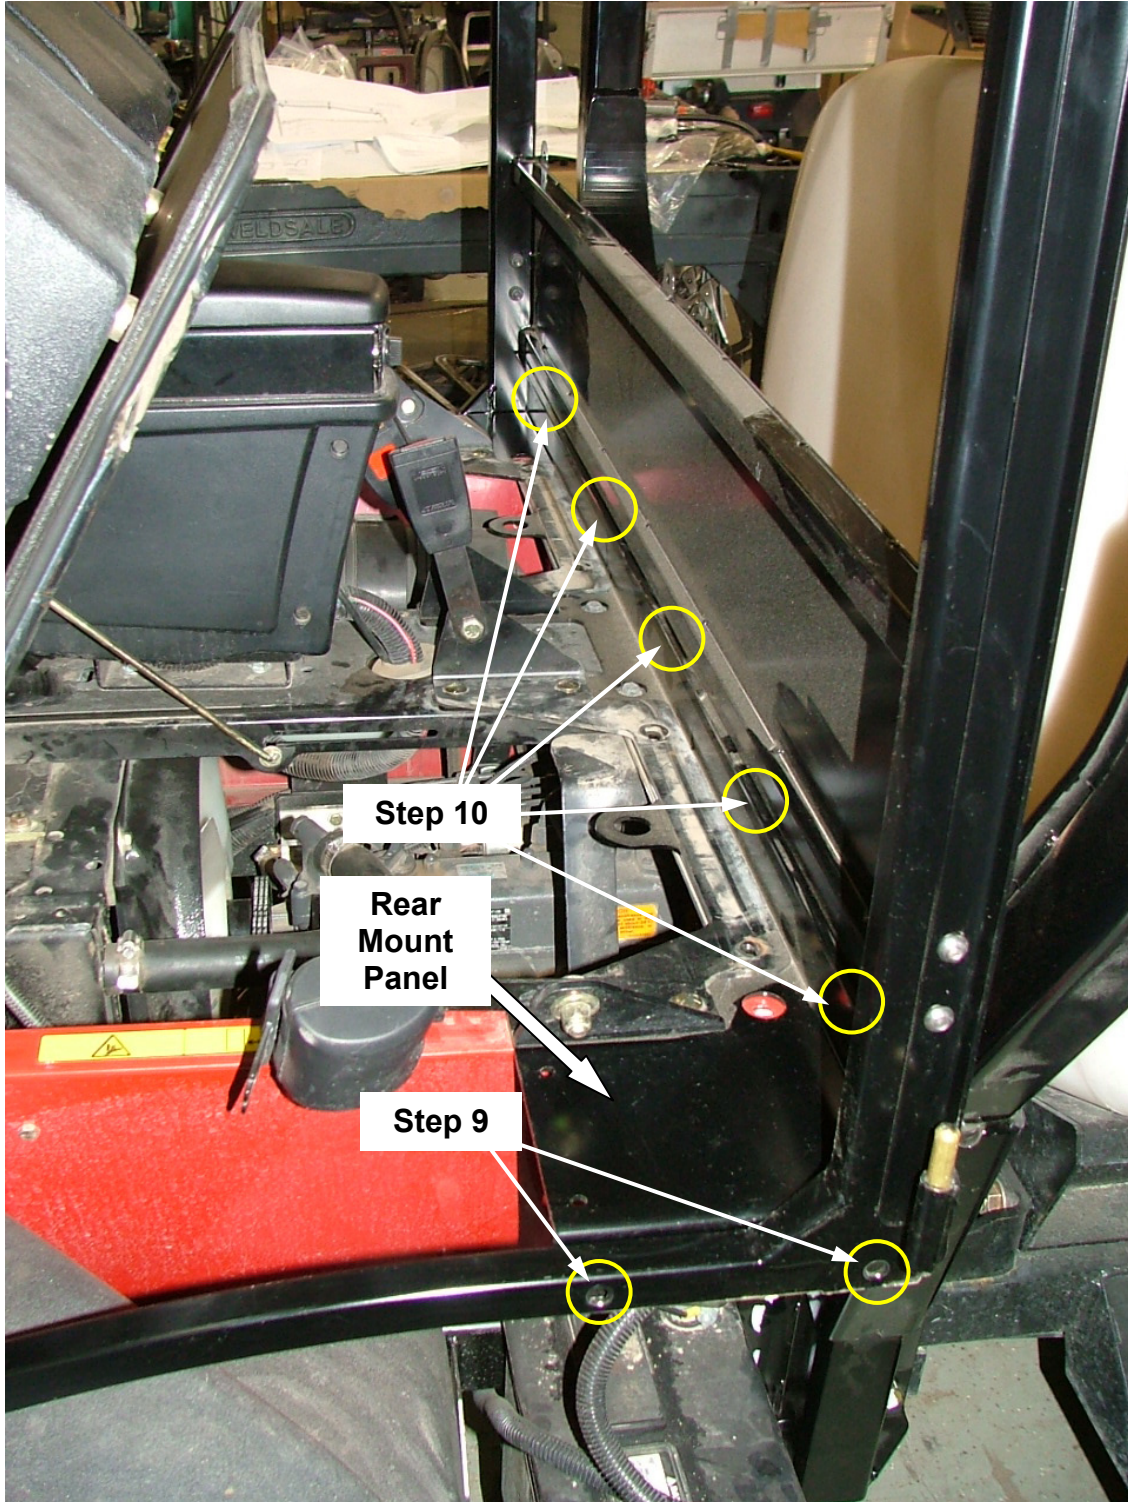

Figure 4
8. Place cab onto machine by aligning the rear mount plate holes with the rear cab tube connection holes and the front of cab around the hood (**Figure 4**).
9. Secure each rear-side frame of cab to rear mount plate using **(Figure 4)**;
(4) 5/16" flange nuts (Item 9).
10. Secure rear of cab to rear mount plate using **(Figure 4)**;